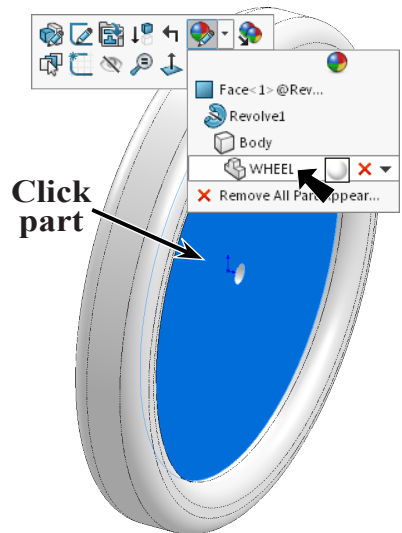

Fig. 15
Step 1. Click the part, click **Appearance Callout**  on the context toolbar and click **WHEEL** , Fig. 15.